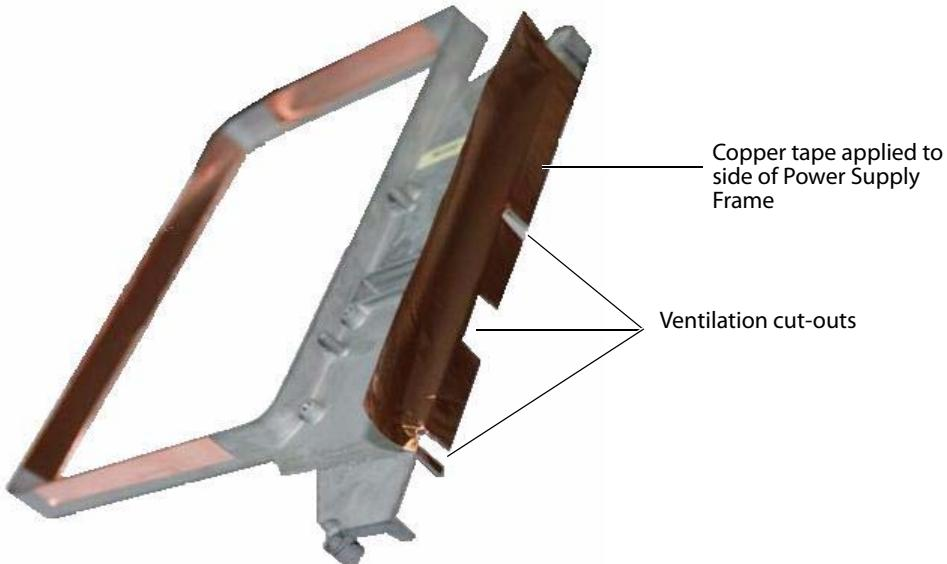

Figure 4.13 SD Card Daughter-card copper tape
- 2 Apply one strip of 1" x 5" self adhesive copper tape to the edge of the Power Supply frame as shown in Figure 4.13.